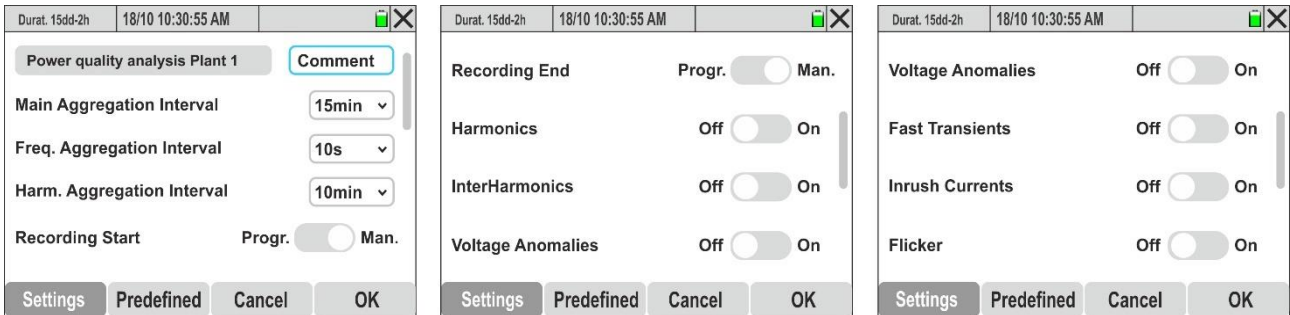

Fig. 28: Recording unit settings screen
1. Select the "Recording Config." mode. The instrument will show the screen in Fig. 28 – left part